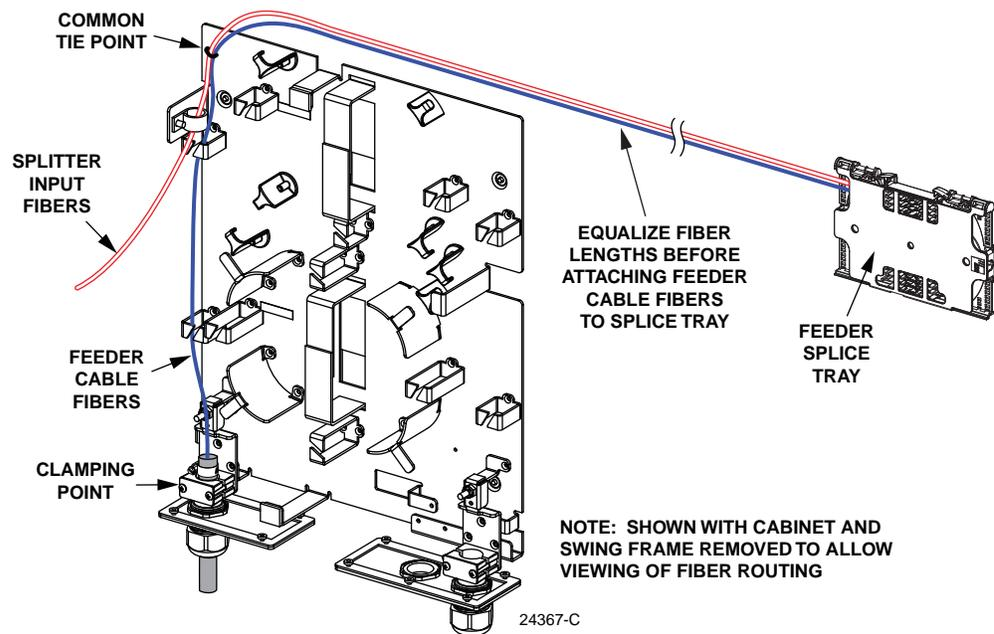

Figure 20. Feeder Cable Fiber Routing to Splice Tray
3. Beginning at the feeder cable clamping point shown in Figure 20, route the feeder cable fiber subunits to the point where they intersect with the splitter input fibers.